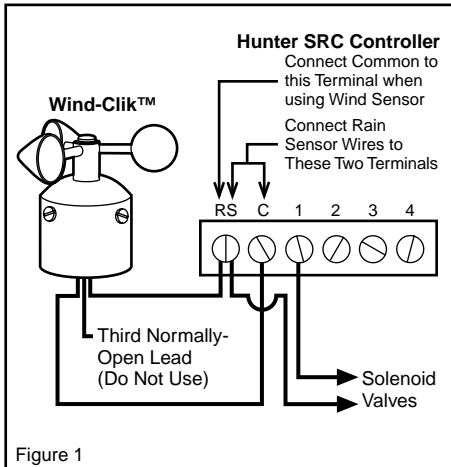

Figure 1
2. Connect one wire to the RS terminal and other to the C terminal (See Figure 1).